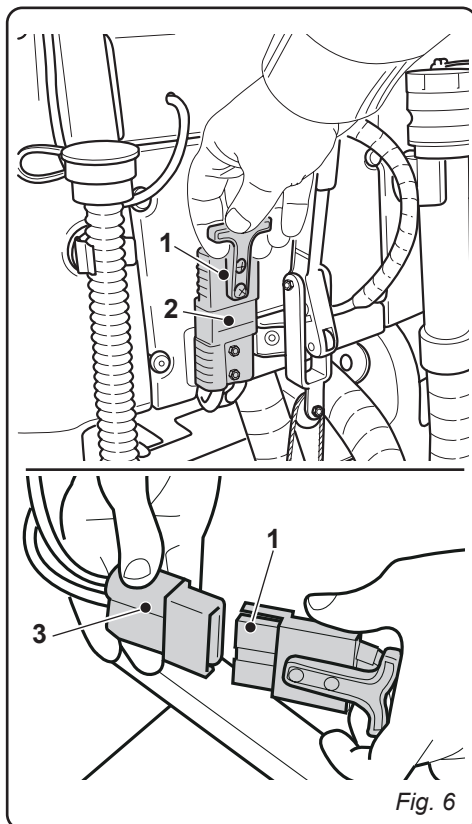

Fig. 6
4.1.b - Charging the battery using an external battery charger (Fig. 6)
- Remove the battery plug (1) from the system socket (2).
- Connect the battery plug (1) to the external battery charger socket (3).
- Once battery charging is complete, reconnect the battery plug (1) to the system socket (2).